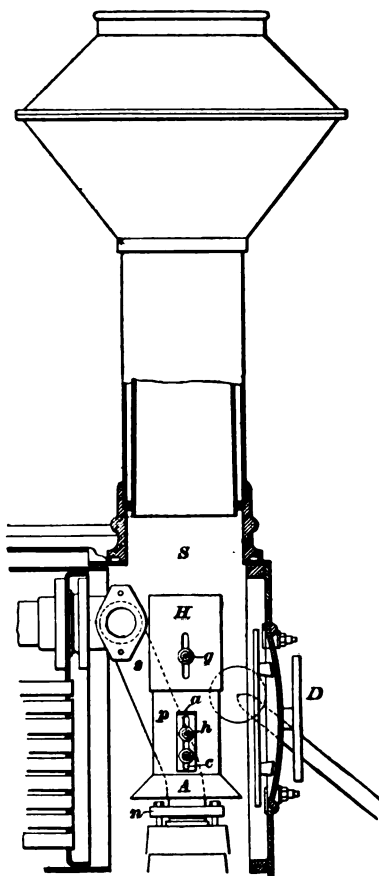

FIG. 14.
The length of the smokebox *S*, Fig. 14, is such as to provide sufficient room for the steam pipes *s*, exhaust pipe *n*, and petticoat pipe *p*. The exhaust pipe is placed directly above the exhaust cavities in the cylinder saddles, and is of short length, as shown. The diamond stack, containing the spark-arresting devices, is so placed that its center is directly above the center of the exhaust nozzles.
**24.** The function of the petticoat pipe, used in the short smokebox, is to equalize the draft through the tubes, so that it will be the same in the top and bottom rows as in the center tubes. This is accomplished by altering the position or length of the pipe, Fig. 14, until the draft is properly regulated. The exact position to give the best results can only be determined by experiment, as it may not be the same for any two engines. If the fire burns quickest and brightest in the front end of the firebox, it indicates that the lower tubes have the greater draft, and consequently the telescope end *H* of the petticoat pipe should be lowered sufficiently to adjust the draft. If the fire burns brightest at the back end of the firebox, it indicates that the draft is greater through the upper tubes, and the end *H* should be raised sufficiently to regulate the draft. When the